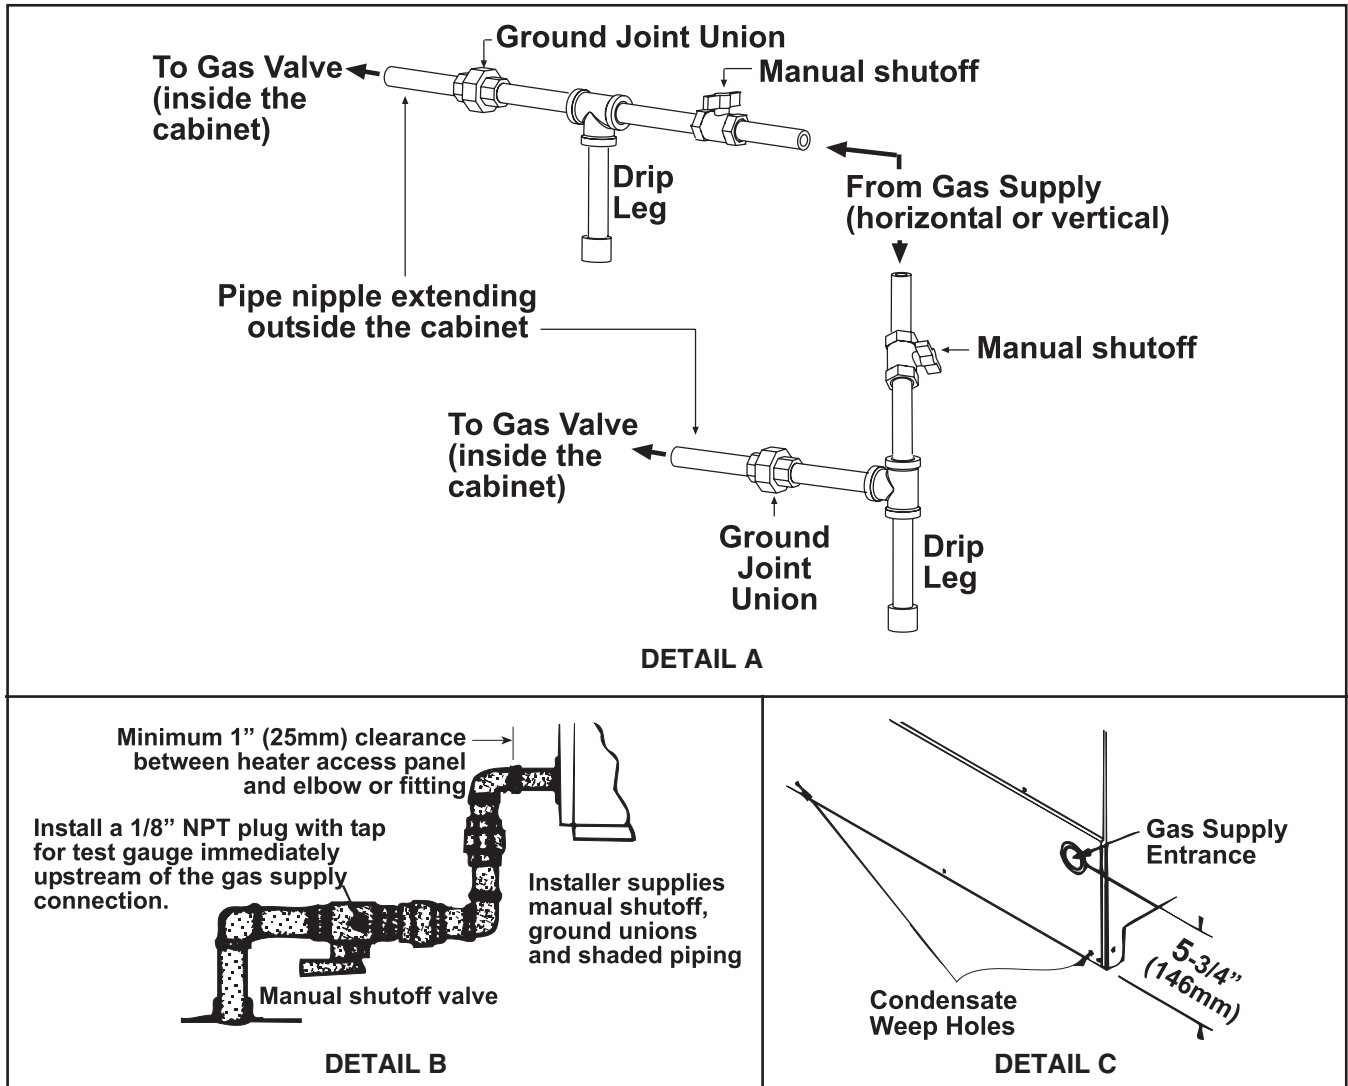

Figure 8. Gas Connections
- Install a ground joint union and manual shutoff valve upstream of the unit control system. The 1/8-inch plugged tapping in the shutoff valve provides connection for the supply line pressure test gauge. The *National Fuel Gas Code* requires the installation of a trap with a minimum 3-inch drip leg. Local codes may require a longer drip leg, typically 6-inch (see Figure 8, DETAIL A).
- Gas connection location and requirements are shown in Figure 8, DETAIL B.
- Install the gas supply piping so that when the union is disconnected, the supply pipe will not interfere with the removal of the burner rack (see Figure 8, DETAIL C). The burner rack slides out of the control side of the furnace.